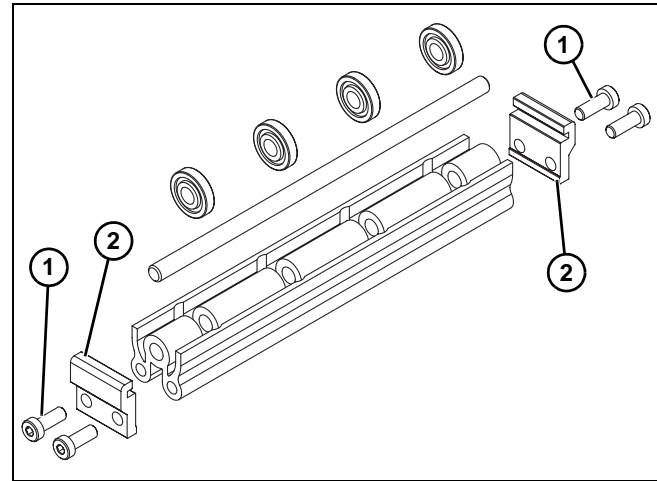

Figure 19
1. Locate return rollers. Exploded view shown in Figure 19.
2. Remove screws (Figure 19, item 1) and clips (Figure 19, item 2) from roller assembly.